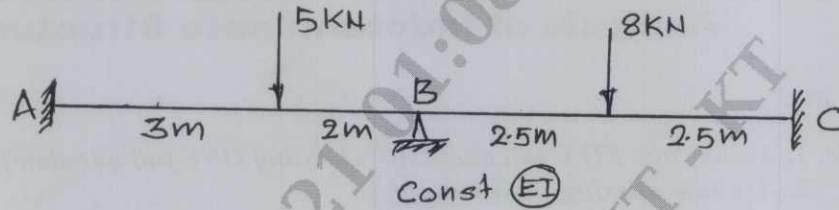

Fig.Q4
- 4 Analyze the continuous beam shown in Fig.Q4 by the method of moment distribution. Draw BMD, SFD and also sketch the elastic curve.